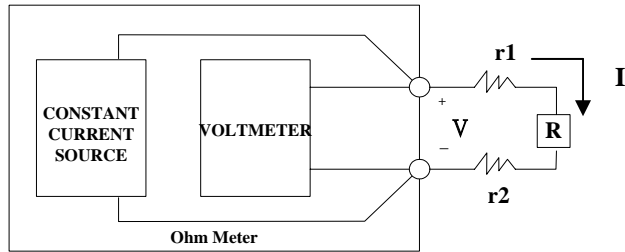

Figure 7-2
1) The traditional 2-wire measurement result combines the test lead resistance. Please refer to Figure 7-2 for the measurement result: